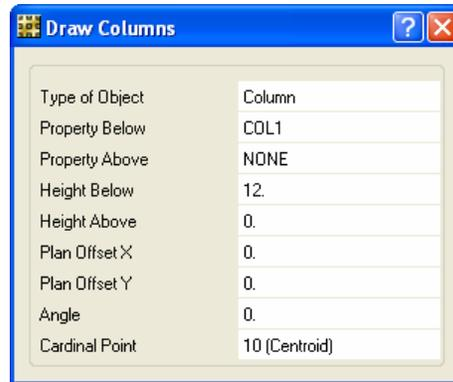

Figure 23 Draw Columns form
- A. Click the **Draw menu > Draw Columns** command to access the Draw Columns form shown in Figure 23.